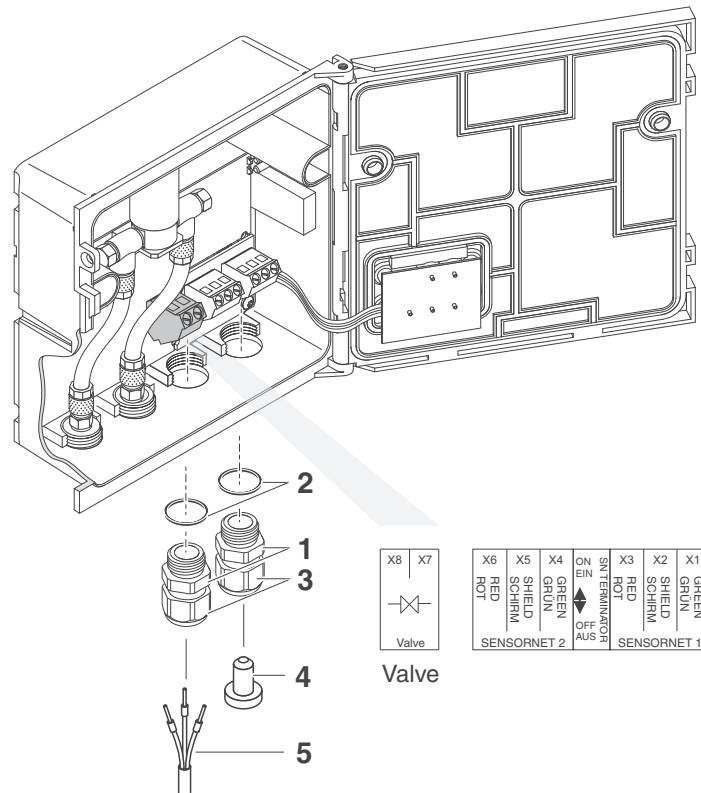

Fig. 3-1 Clamping termination for the valve control line
- 2 Screw the cable gland (pos. 1 in Fig. 3-1) with the sealing ring (pos. 2) into the left connection opening.
- 3 Loosen the coupling ring (pos. 3 in Fig. 3-1).
- 5 Connect the wires of the valve control line (pos. 5 in Fig. 3-1) to the clamping termination for the valve control line. While doing so, pay attention to the specifications on the label located under the terminal strip.
- 6 Tighten the coupling ring (pos. 3 in Fig. 3-1).
Screw a cable gland with sealing ring into the free opening and close it with the enclosed blind plug (pos. 4 in Fig. 3-1).
- 9 Tighten the coupling ring (pos. 3 in Fig. 3-1).